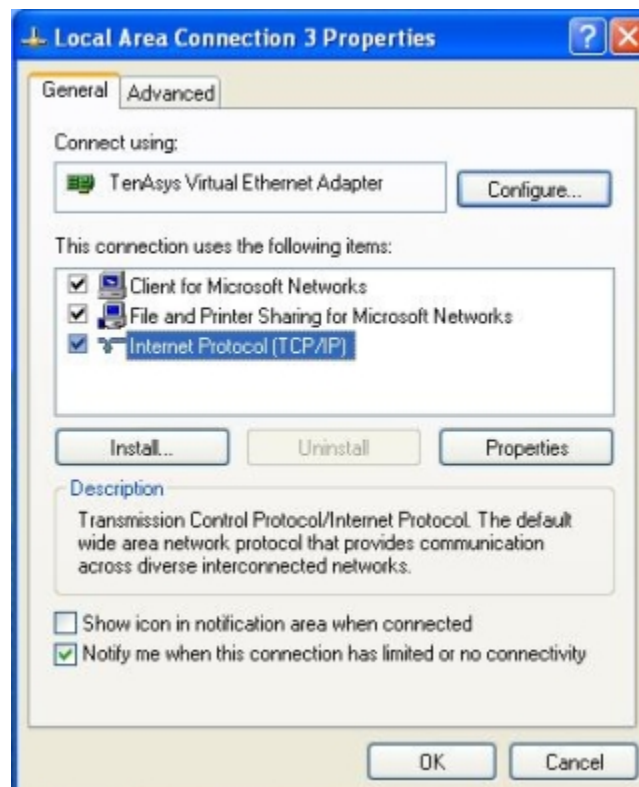

Figure G. 3 - TenAsys Virtual Ethernet Adapter Local Area Connection Properties
3. This will open the *Local Area Connection Properties*. Click on **Internet Protocol (TCP/IP)**, and then click the **Properties** button, Figure G. 3, so that we can set up the TCP/IP properties of the virtual Ethernet device.